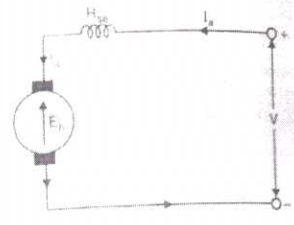

Fig. 18.5
- (ii) series-wound motor in which the field winding is connected in series with the armature (See Fig. 18.5)